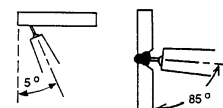

Figure 2.2
3. The electrode should be positioned at an 85° work angle and a 5° drag angle to perform the weld. (See Figure 2.2.)